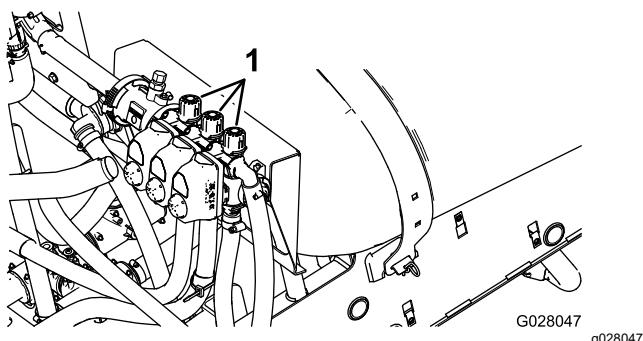

Figure 20
- Adjust the right section-bypass knob (Figure 20) until the pressure reading is at the previously adjusted level (typically 2.75 bar or 40 psi).
- Adjust the center section-bypass knob (Figure 20) until the pressure reading is at the previously adjusted level (typically 2.75 bar or 40 psi).
- Turn off the left section and adjust the section-bypass knob (Figure 20) until the pressure reading is at the previously adjusted level (typically 2.75 bar or 40 psi).